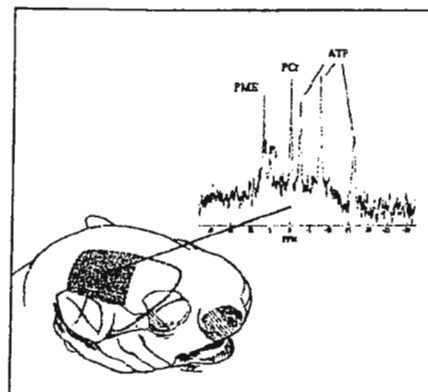

FIGURE 1
We have begun an investigation of hypoxic-ischemic injury in seven day old rat pups. Since the neonatal rat has very little muscle strength and is content to remain for long periods in a dark, warm and restricted space, it is an ideal model for the study of unanesthetized cerebral metabolism by NMR. The hypoxic insult was provided by the administration of 8% oxygen to the neonates, who had their right common carotid artery ligated four hours earlier. This procedure will produce well documented cellular damage and changes in tissue metabolism in the anterior region of the right hemisphere (1). Specific localization of phosphorus metabolites have been performed using a 7 x 10 mm elliptical single-turn surface coil limited to the temporal region of the brain (Figure 1). A resulting eight minute spectrum is also shown in Figure 1.